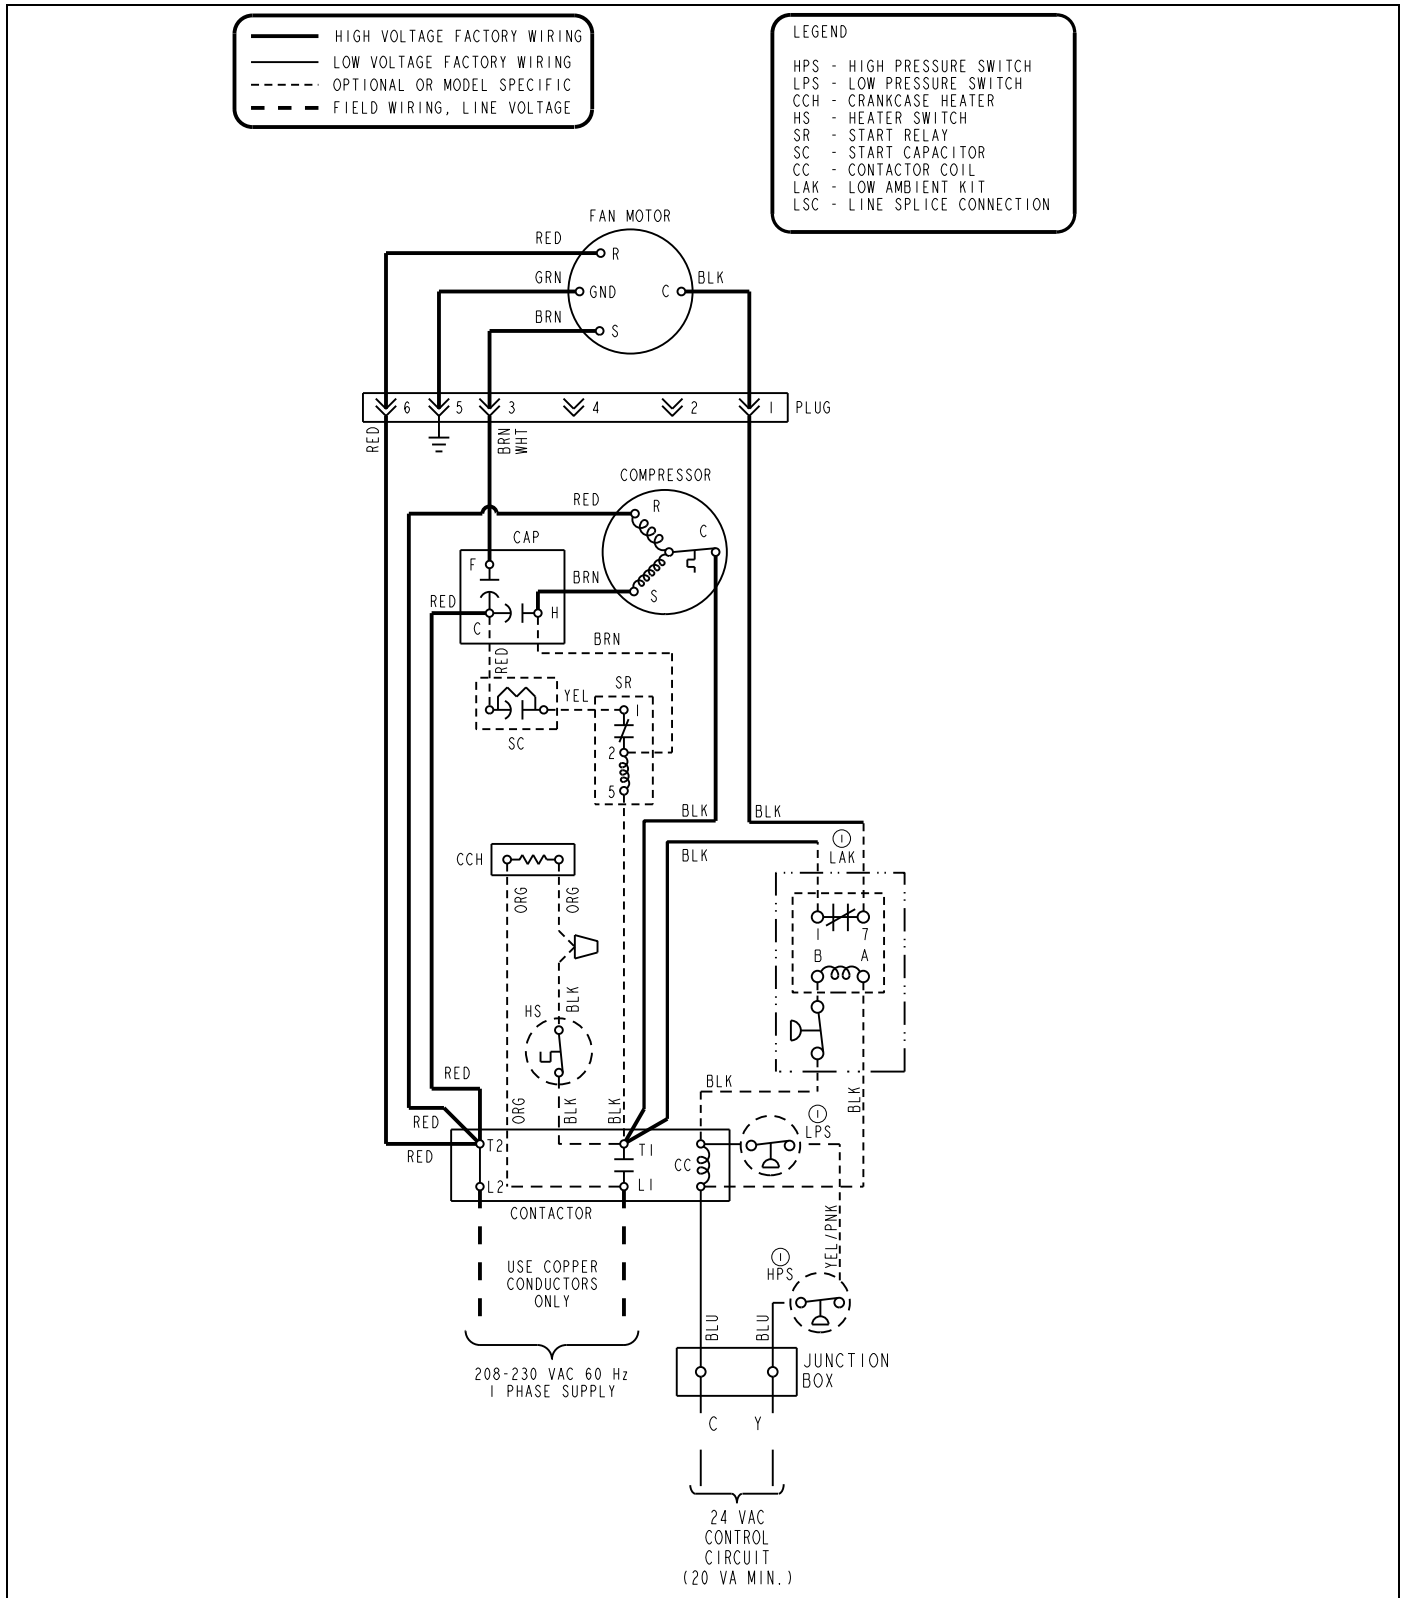

FIGURE 2: Wiring Connections for Single Stage Air Conditioning Units
- a. For 1 and 3 phase AC, use Figure 2.